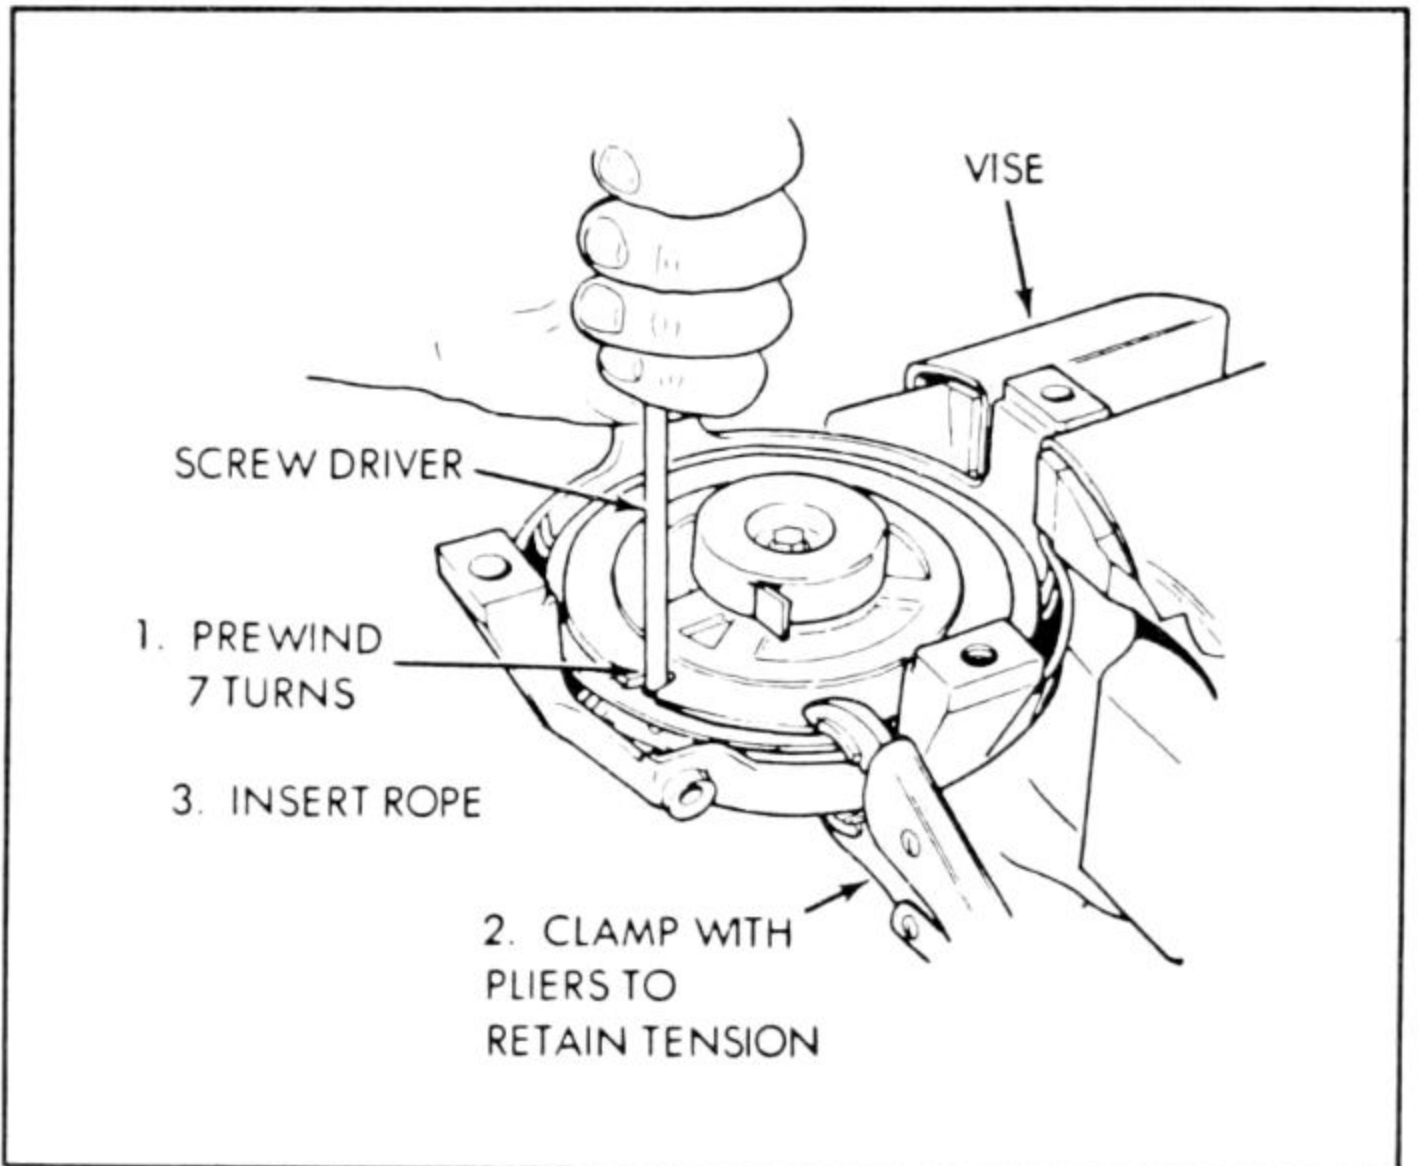

Fig. 4-14. Prewind specification varies with starter model and mainspring condition.
C) Wind sheave until mainspring coil binds (Fig. 4-14).